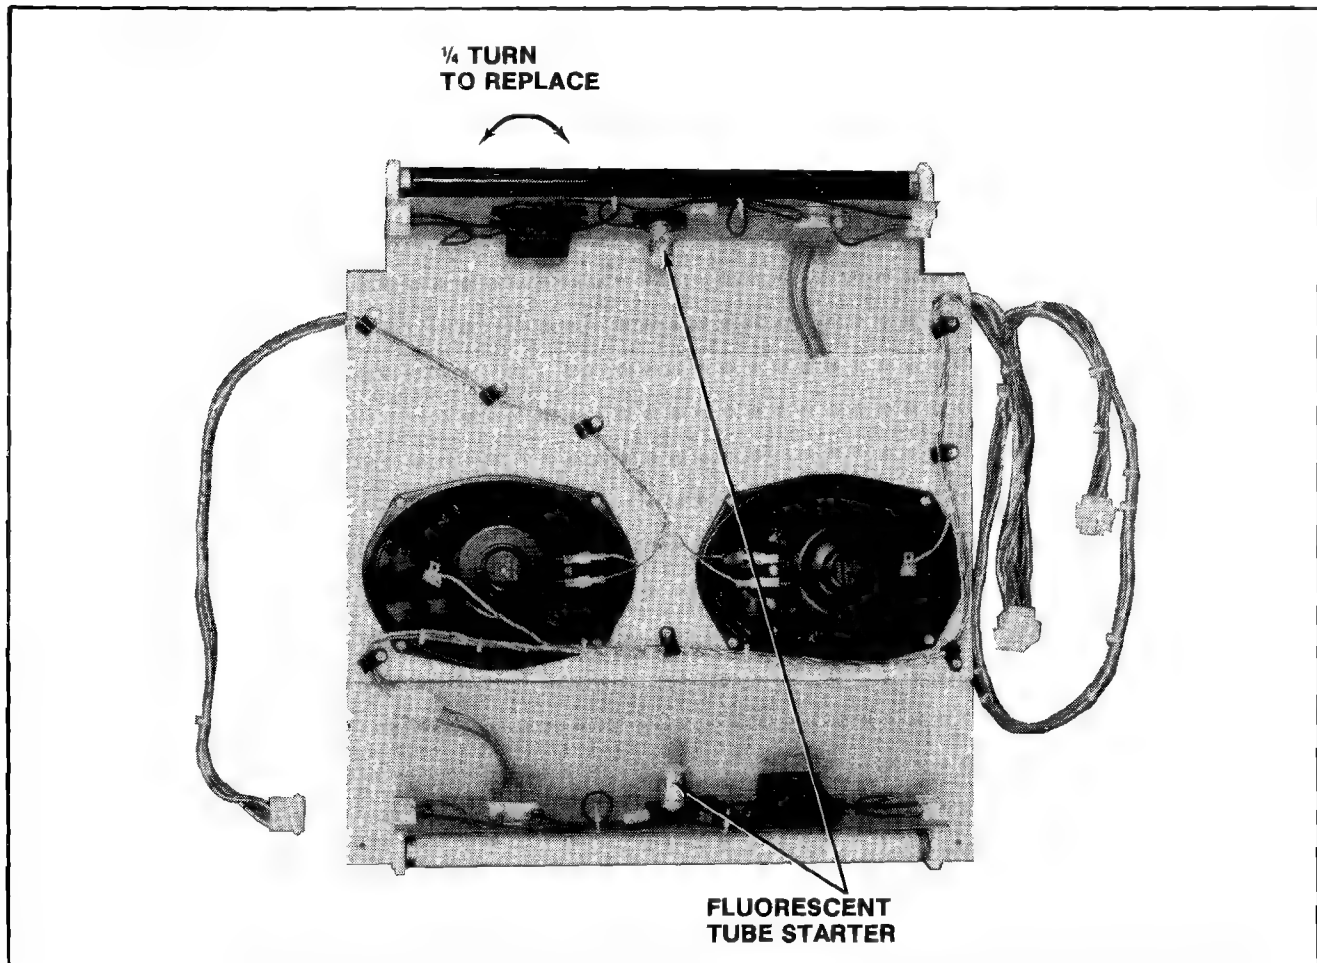

Figure 2-34 Replacing Fluorescent Tube Starter
- ❑ Replacing the fluorescent light tube starter. See Figure 2-34.
- ❑ Replacing the ultraviolet light tube starter. See Figure 2-34.